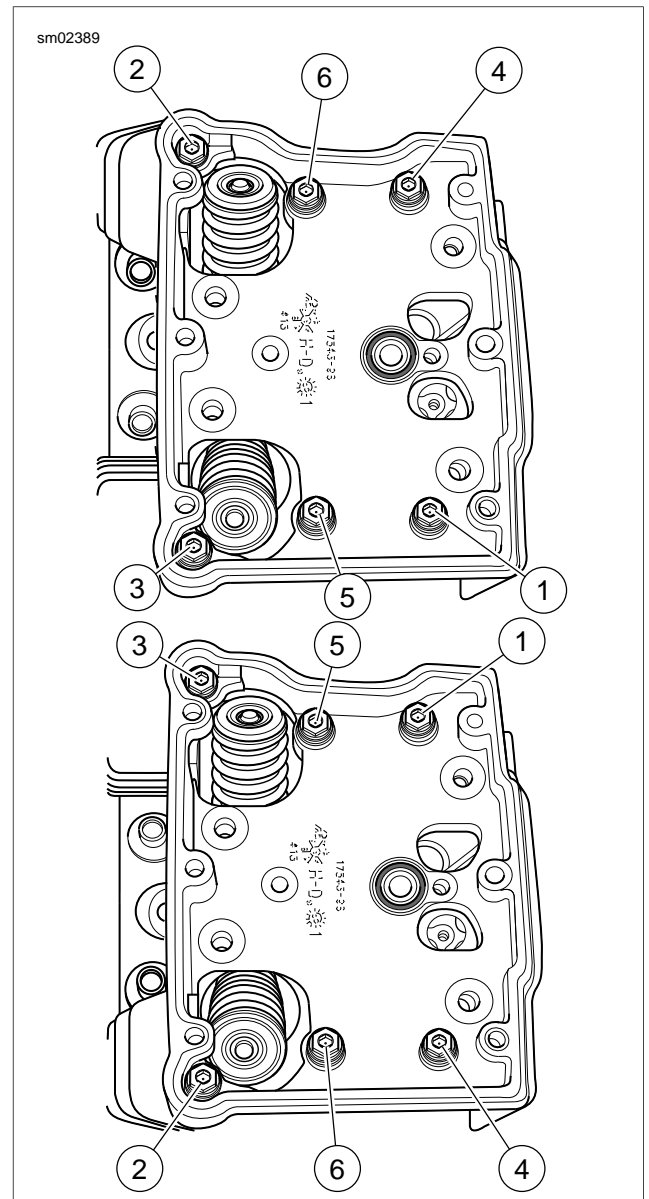

Figure 3-25. Rocker Housing Bolts Removal Sequence
1. See Figure 3-25. Following the sequence shown, alternately loosen the six rocker housing bolts. Remove rocker housing bolts and their captive washers.